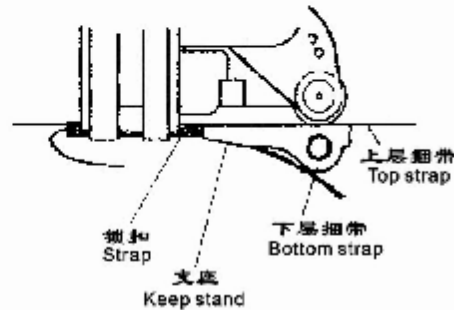

图3 (Fig3)
2.Switch on the air source valve, move the strapper to the top of the package put the top strap between the feed wheel and then growheel push the strapper forward until the front of theseal stop contacts the end of the seal.Then the preparation is over. See Fig.3